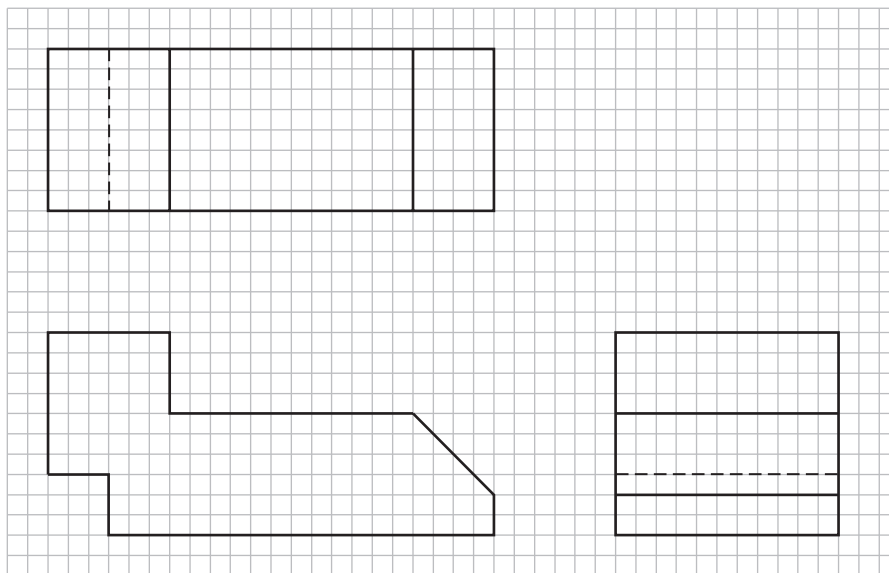

Fig. 24-7
2. Figure 24-7 shows a sketch of the step block for a bowling alley pinsetter. Create the drawing using appropriate layers. Each square represents 5 cm. Add a title and these notes: **1) Break all sharp edges, 2) fillets and rounds 5 cm, and 3) material is UNS S30451 stainless steel.** Save the drawing as **ch24pinsetter.dwg**.